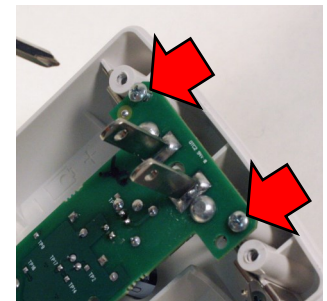

Fig. 3: Remove the two "Wall Outlet PCB" screws
- Remove the two screws that secure the **Wall Outlet PCB** (see Fig. 3). Unplug the **Wall Outlet PCB** and place into the supplied anti-static bag/sheet for possible future use.